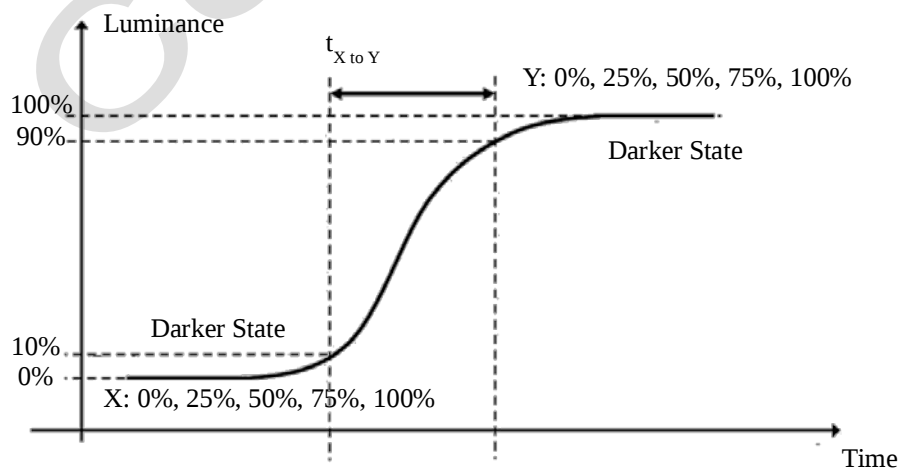

Fig. 6.4 The definition of $t_{X \text{ to } Y}$
(3) Response time T_L is defined as the average transition time in the response time matrix. The table below is the response time matrix in which each element $t_{X \text{ to } Y}$ is the transition time from luminance ratio X to Y . X and Y are two different luminance ratios among 0%, 25%, 50%, 75%, and 100% luminance. The transition time $t_{X \text{ to } Y}$ is defined as the time taken from 10% to 90% of the luminance difference between X and Y ($X < Y$) as illustrated in Fig6.4. When $X > Y$, the definition of $t_{X \text{ to } Y}$ is the time taken from 90% to 10% of the luminance difference between X and Y . The response time is optimized on refresh rate $F_R = 60\text{Hz}$.